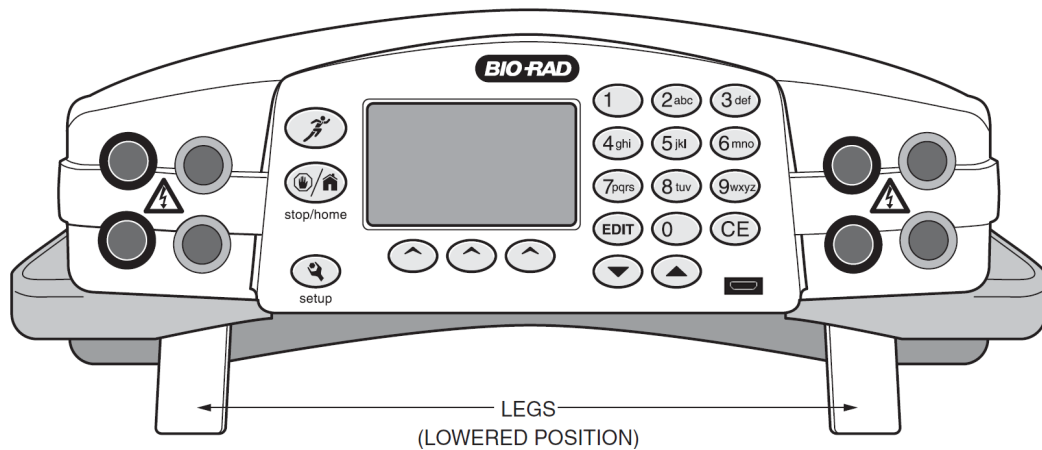

Figure 3. Front view with legs in lowered position
- Stackable case with adjustable viewing angle via flip down legs (see Figure 3)